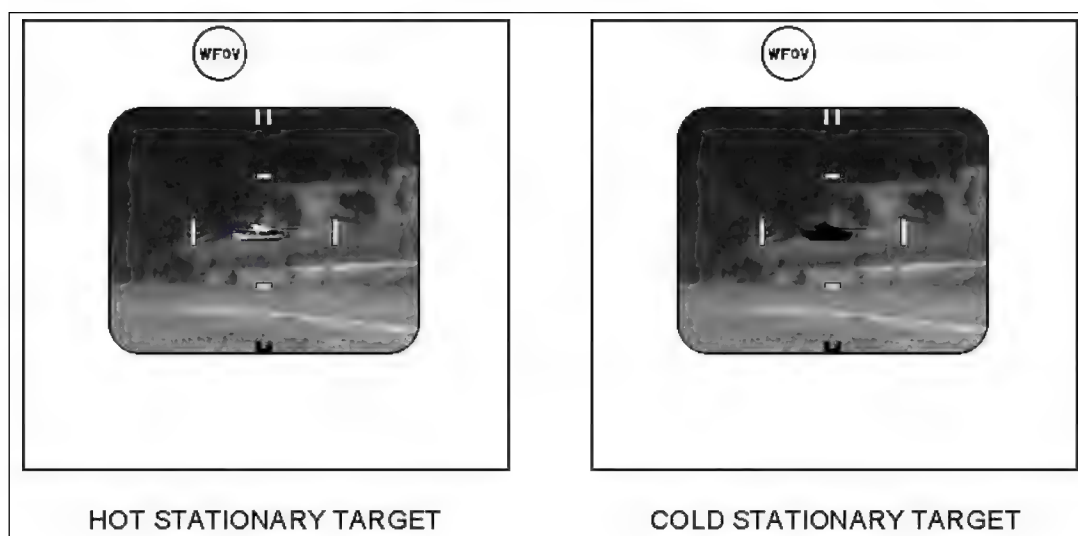

Figure E-46. Hot and cold stationary targets.
d. **Offensive Operations (Stationary Targets).** During offensive operations, the gunner may encounter stationary targets. A stationary target is more difficult to detect than a moving target, because it does not give away its location by moving, but can be partly or completely concealed by a terrain feature. Key IR signatures may be cold. Depending on how long the target has been stationary, the gunner may see hot, cold, or partly cool signatures. The IR image of a hot, stationary target is much easier to detect than that of a cold, stationary target (Figure E-46). The gunner can augment his visual search to find an enemy emplacement. The difficulty in detecting a target is directly affected by the temperature of the surrounding terrain.